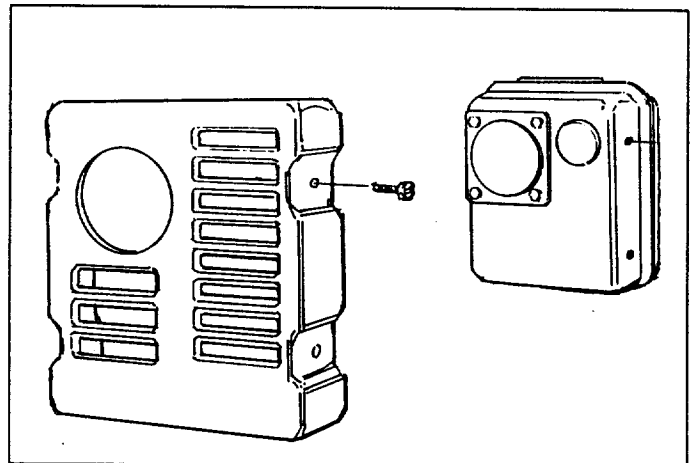

FIG. 11
- To remove the heat shield from the muffler (Fig. 11), remove the four screws that connect the shield to the muffler.